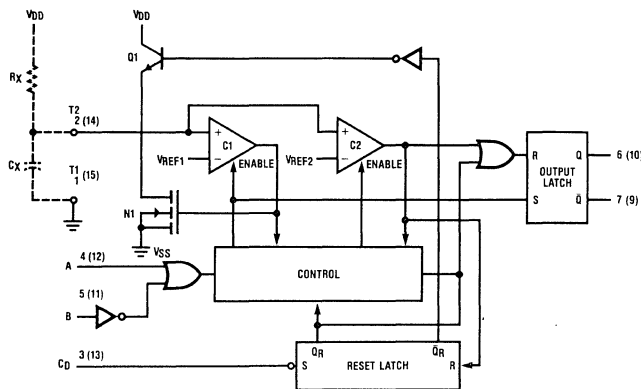

Figure 1.
The block diagram of the CD4538B is shown in Figure 1, with circuit operation following.
As shown in Figures 1 and 2, before an input trigger occurs, the monostable is in the quiescent state with the Q output low, and the timing capacitor  $C_X$  completely charged to  $V_{DD}$ . When the trigger input A goes from  $V_{SS}$  to  $V_{DD}$  (while inputs B and  $C_D$  are held to  $V_{DD}$ ) a valid trigger is recognized, which turns on comparator C1 and N-Channel transistor N1①. At the same time the output latch is set. With transistor N1 on, the capacitor  $C_X$  rapidly discharges toward  $V_{SS}$  until  $V_{REF1}$  is reached. At this point the output of comparator C1 changes state and transistor N1 turns off. Comparator C1 then turns off while at the same time comparator C2 turns on. With transistor N1 off, the capacitor  $C_X$  begins to charge through the timing resistor,  $R_X$ , toward  $V_{DD}$ . When the voltage across  $C_X$  equals  $V_{REF2}$ , comparator C2 changes state causing the output latch to reset (Q goes low) while at the same time disabling comparator C2. This ends the timing cycle with the monostable in the quiescent state, waiting for the next trigger.